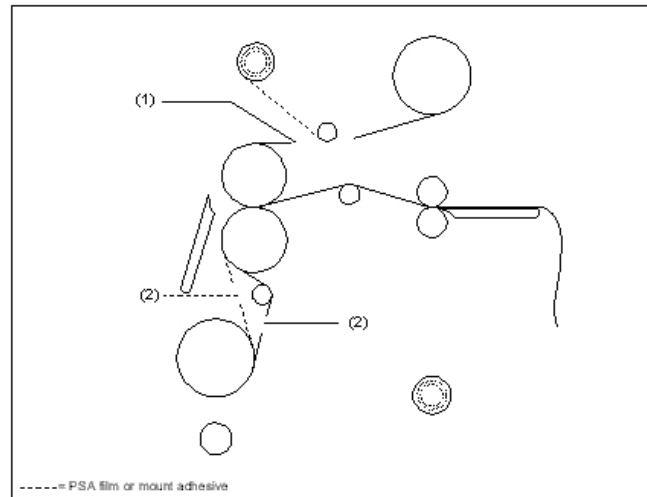

Fig 30
1. Cut (1) remaining top film web between the idler bar and heat roller. Cut (2) the film web between the lower film supply and the idler bar (Figure 30).